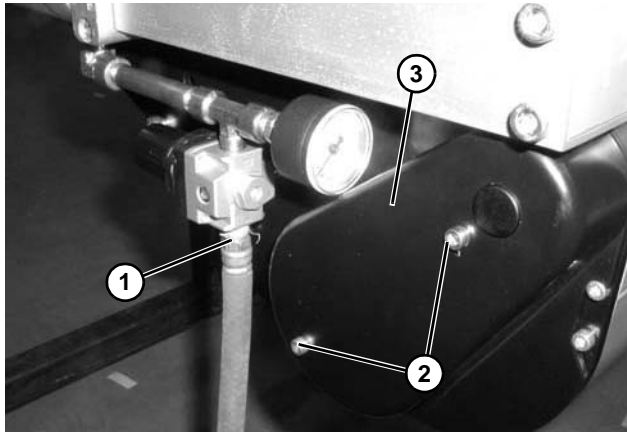

Figure 130
1. Remove air supply (**Figure 130, item 1**) from center drive module.
2. Remove screws (**Figure 130, item 2**) and cover (**Figure 130, item 3**).
8. Reinstall cover (**Figure 130, item 3**). Tighten screws (**Figure 130, item 2**) to 69 in-lbs (8 N-m).